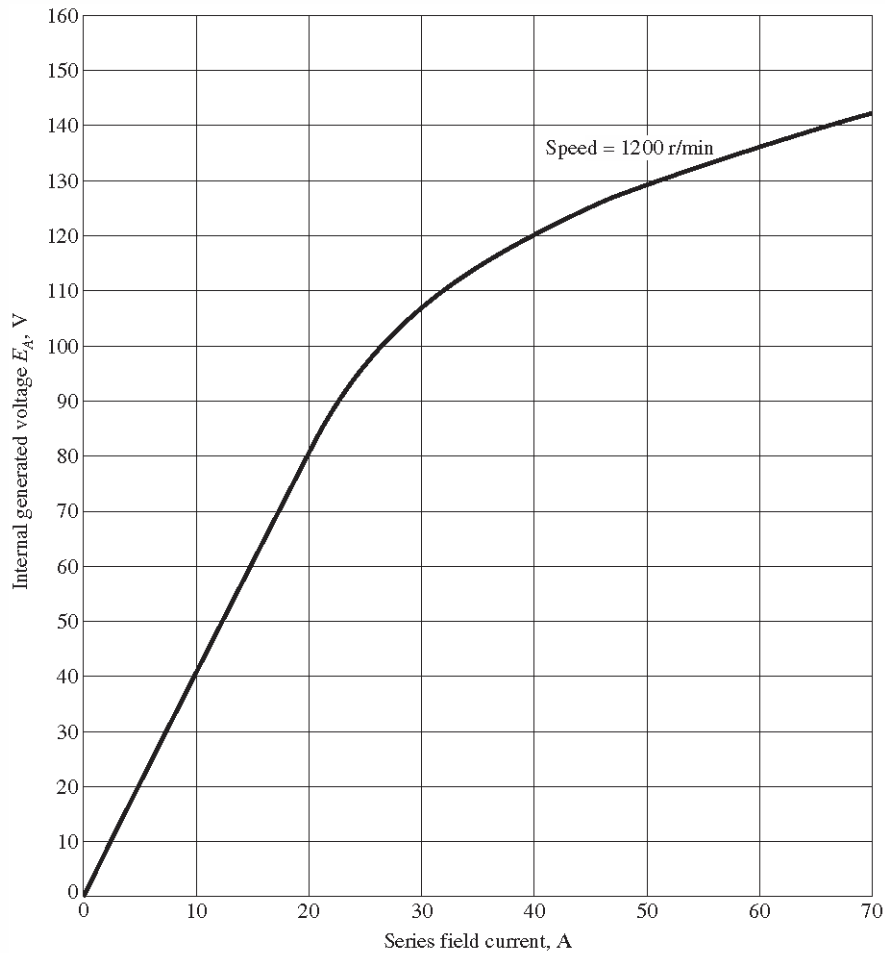

FIGURE P8-5
- 8-13.** A **7.5**-hp 120-V series dc motor has an armature resistance of 0.1Ω and a series field resistance of 0.08Ω . At full load, the current input is **56 A**, and the rated speed is 1050 r/min. Its magnetization curve is shown in Figure P8-5. The core losses are **220 W**, and the mechanical losses are **230 W** at full load. Assume that the mechanical losses vary as the cube of the speed of the motor and that the core losses are constant.
From Figure P8-5, the internal generated voltage E_{A2} for a current of 40 A and a speed of $n_o = 1200$ r/min is $E_{A2} = 120 \text{ V}$, and the internal generated voltage E_{A1} for a current of 56 A and a speed of $n_o = 1200$ r/min is $E_{A1} = 133 \text{ V}$.